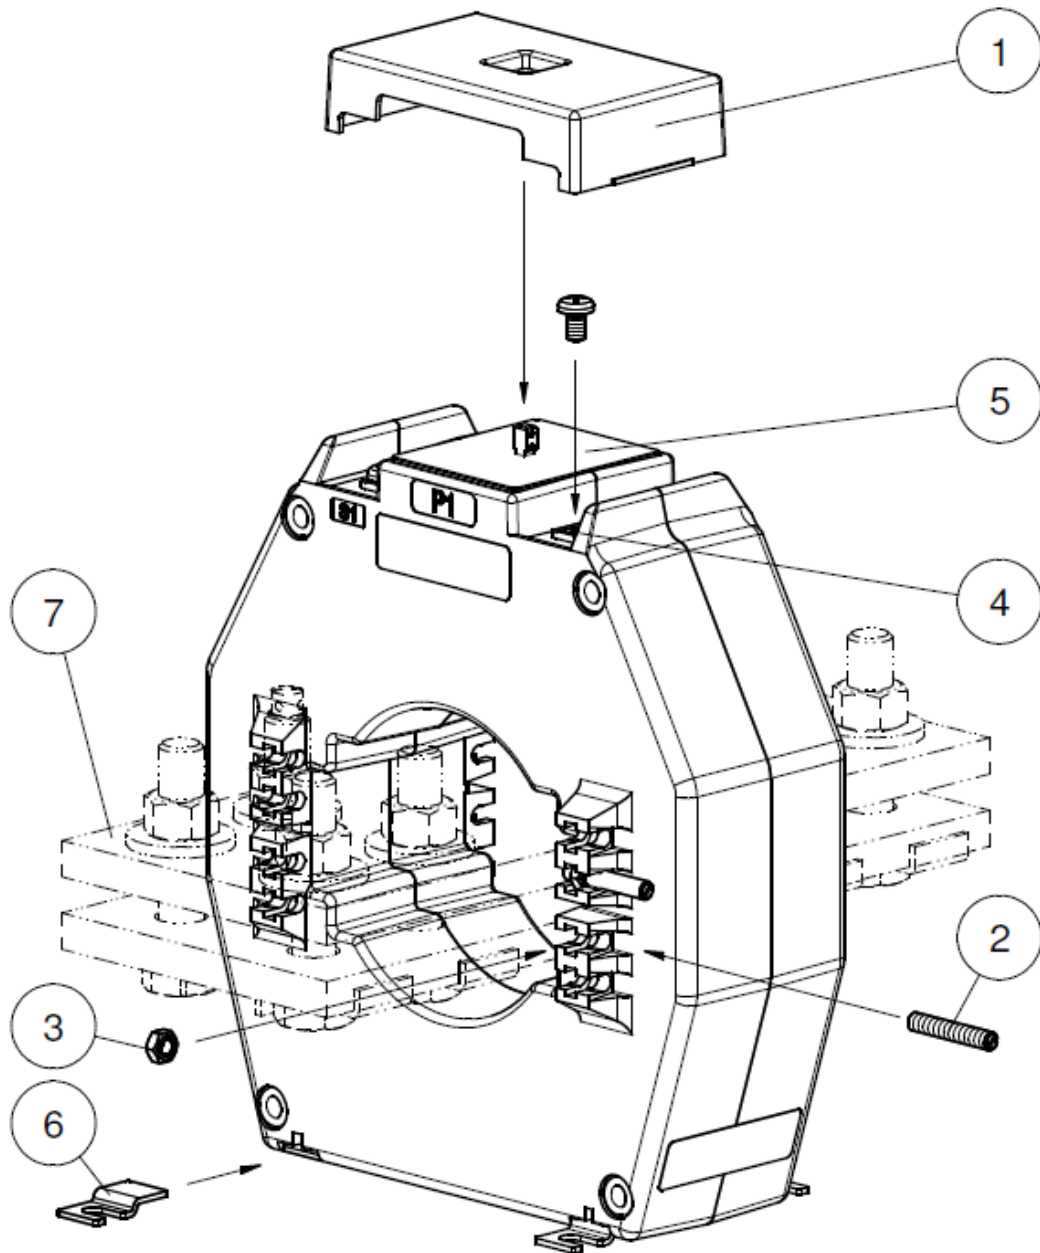

Figure 2.34: LMG-Z542 Drawing 3D
Description of Figure 2.34:
- 2 Secondary terminals, max. tightening torque see Figure 2.34
- 5 Primary conductor fixture, max. tightening torque see Figure 2.34